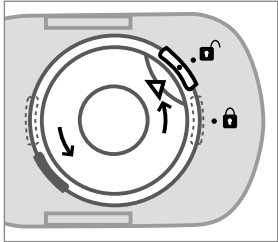

Fig. 2
3. Put the inhalation chamber vertically on a table. Uncouple the top of the inhalation chamber. To do this, turn the inhalation chamber cover counterclockwise so that to make mark «» point to «» (Fig. 2). To remove a cover from an inhalation chamber, pull it upwards.